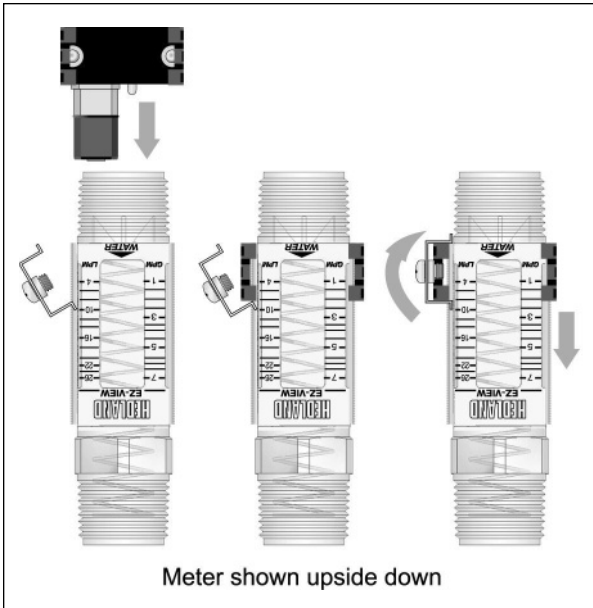
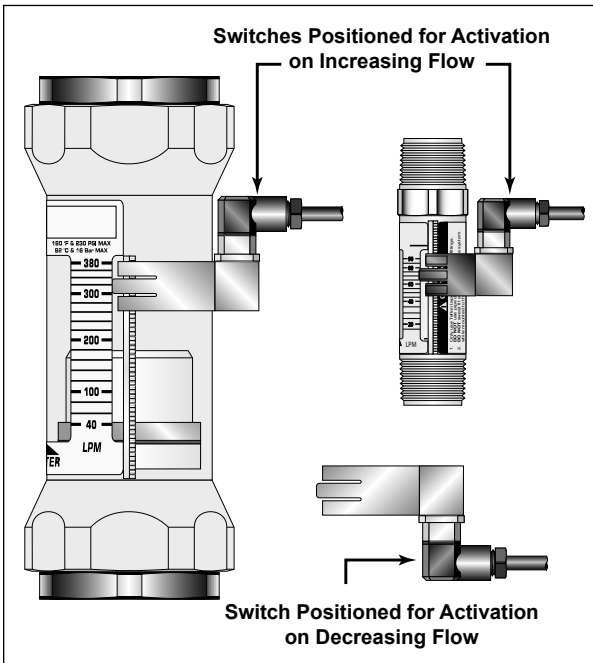

Figure 11. Latching Switch Installation
Figure 12. Latching Switch Installation
1. Install one end of the vibration locking kit onto the LPM side of the meter's serrated rail as shown in Figure 11. Install the switch by placing the adjustment arm over the serrated rail from the inlet end of the 1/2", 3/4" and 1" meters, or the outlet end of the 1-1/2" or 2" meters. The direction of the connector and cable assembly indicates whether the switch will activate on increasing flow (connector and cable pointing down). See Figure 12. Secure the other end of the vibration locking kit and tighten after positioning.